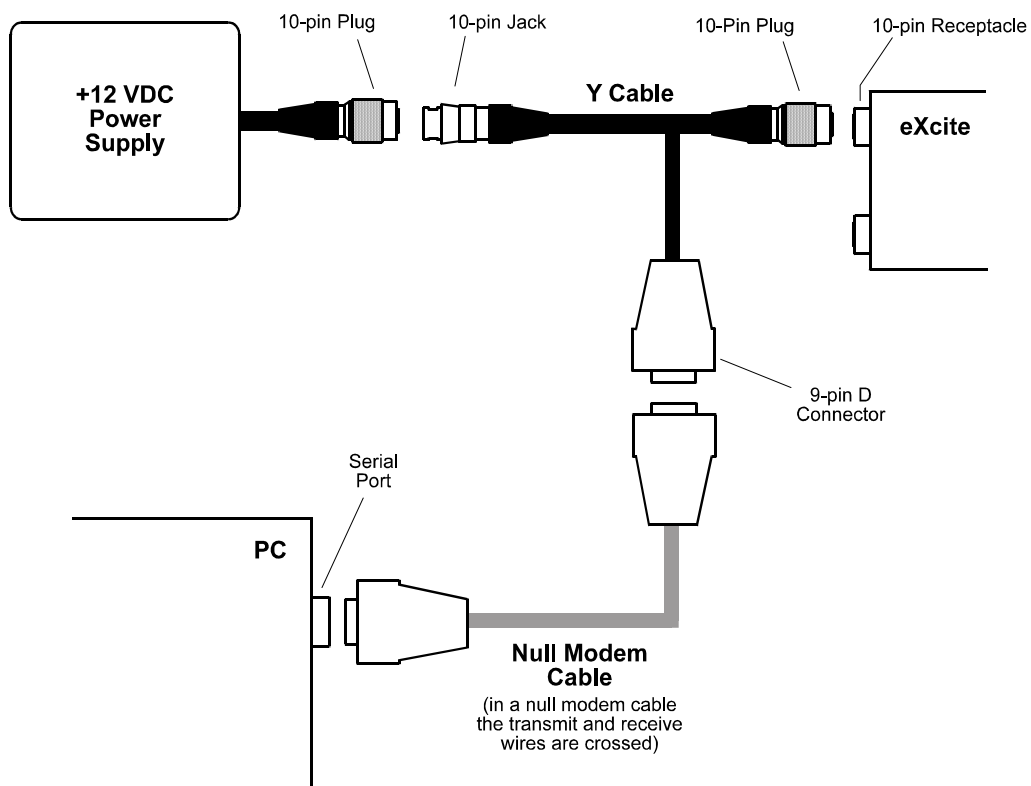

Figure 2-1: Using a Y Cable to Make a Serial Connection to the eXcite
- b) Connect the 9-pin D connector on the Y cable to one end of a null modem cable as shown in Figure 2-1.